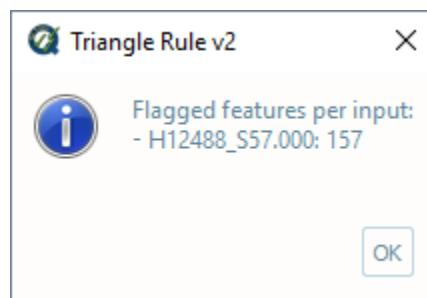

Fig. 2.79: Triangle rule’s output message.
- After executing, the output window opens automatically, and the results are shown by textbox (Fig. 2.79).